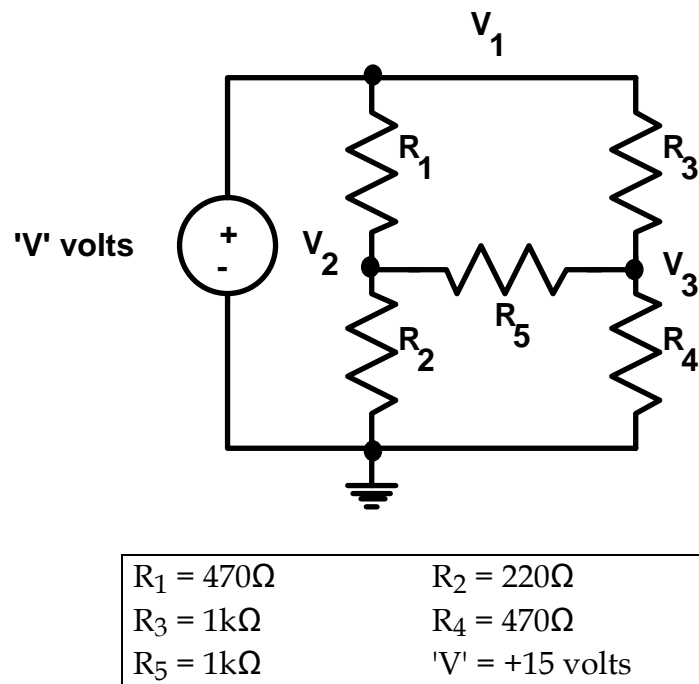

Figure 6.2
(II) Consider the circuit shown in Figure 6.2. This arrangement is called a *bridge* circuit, and is used for several instrumentation and measurement purposes. One useful property of the bridge circuit is the so-called *balance* condition that occurs when the relationship among the bridge resistors ("legs") is such that $(R_1/R_2) = (R_3/R_4)$. Note that in the balance state the node voltages V_2 and V_3 are equal, meaning that the current in R_5 must be zero. Also note that the balance condition depends only upon the resistor ratios, not the applied voltage, V .
Using the resistance and voltages given in Figure 6.2, determine ALL node voltages and branch currents in the circuit. Using the voltage and current values, calculate the power dissipated by each resistor.
- (2) Construct the bridge circuit of Figure 6.2, again recording the resistance of each resistor and using the multimeter to adjust the power supply voltage. Measure and record all node voltages and branch currents.
- (3) Next, replace resistor R_4 with a $1\text{k}\Omega$ variable (adjustable) resistor. Use the multimeter to measure the voltage across resistor R_5 while you slowly vary the value of R_4 . Adjust the value of R_4 until the multimeter indicates zero volts across R_5 . Carefully remove the variable resistor from the circuit and measure its resistance using the multimeter.
- (4) Now replace R_2 with a nominal 100Ω resistor (measure and record the actual resistance). Place the variable resistor back in the R_4 position and adjust until the multimeter indicates zero volts across R_5 . Carefully remove the variable resistor and measure its new value.